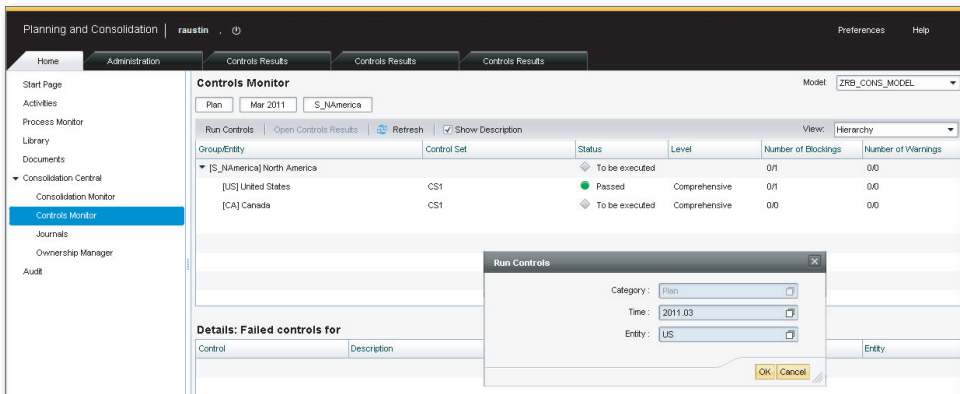
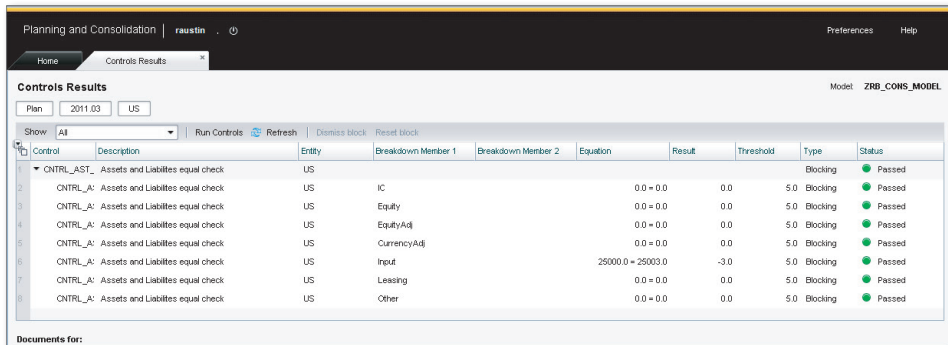

Figure 9.32 Configuring and Running Controls—Part K
Figure 9.34 Configuring and Running Controls—Part M
- In the HOME workspace and in the CONSOLIDATION CENTRAL domain, select the CONTROLS MONITOR view. Select the model for which you assigned the controls. In this view, select the same CATEGORY and TIME dimension member you used when assigning a control set. Select the Scope (or Group) dimension member (Figure 9.32). You will see the control set displayed with the hierarchy selection for the time and category as defined in the ownership model. The hierarchy selections should be defined in the ownership model.
12. Click at the node level or a base member, and click on the menu option RUN CONTROLS to run the control (refer back to Figure 9.32).
13. You can view the status of the control in the STATUS column (Figure 9.34). You can click on the entity member and on OPEN CONTROLS RESULTS to view the detailed log of the control executed (refer back to Figure 9.32).